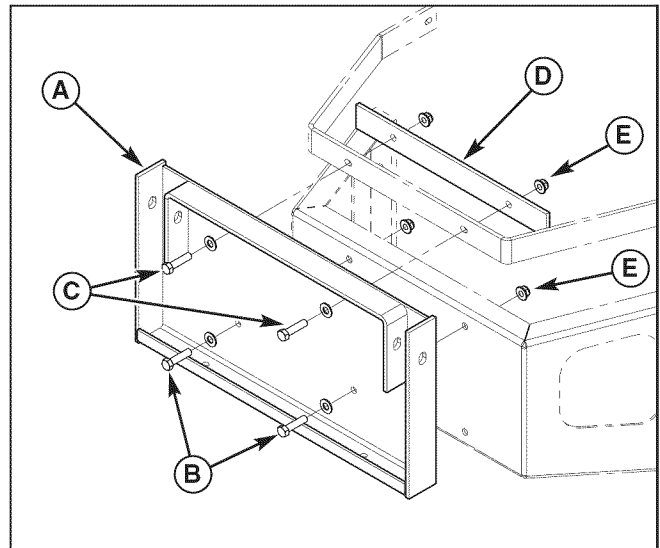

Figure 32. Install Collector Mount Plate
2. Install the collector mount plate (A, Figure 32) on to the lower bumper and secure with the previously removed 3/8" bolts, 3/8" washers (B) and new 3/8-16 nylock flange nuts (E).